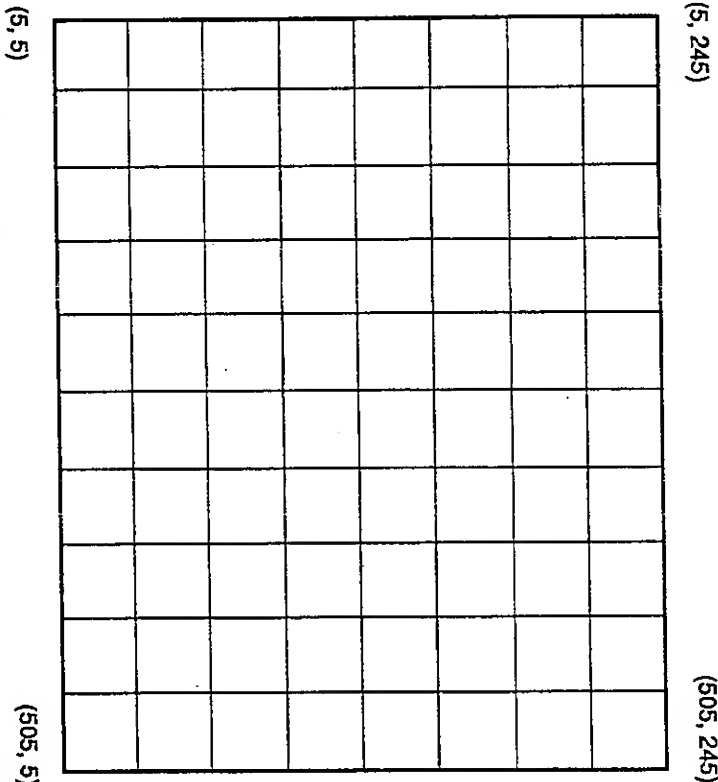

Figure 4-2. Spectrum Analyzer Graticule Coordinates.
The spectrum analyzer's graticule is represented by 500 intervals horizontally and 240 intervals vertically. The graticule corner coordinates are represented as shown in Figure 4-2.
Vertically, the data are digitized into 256 values from 0 to 255. The resulting graticule is represented by points 5 to 245 (Figure 4-2). Values outside this range extend beyond the graticule area. Therefore, the sixth data point (5) along the vertical axis crosses the bottom graticule line; the 245th point crosses the top graticule line. See Section 6, *Programming*, for programming examples using CURVE and CURVE?